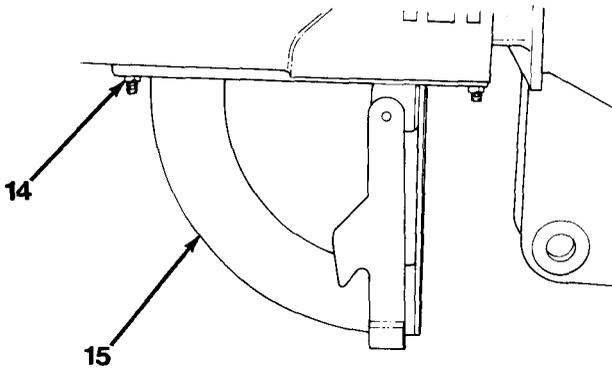

Figure 15-7
2. Remove four lock nuts (14) and boom angle indicator and strip (15, Figure 15-7).